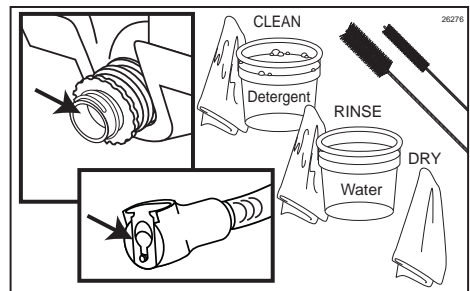

Figure 163
9. Clean the outer surfaces of the Syrup Bag Connector with detergent water, single service towel and brush if necessary. Then rinse and dry the connector using clean water and single service towels. (See Figure 163.)